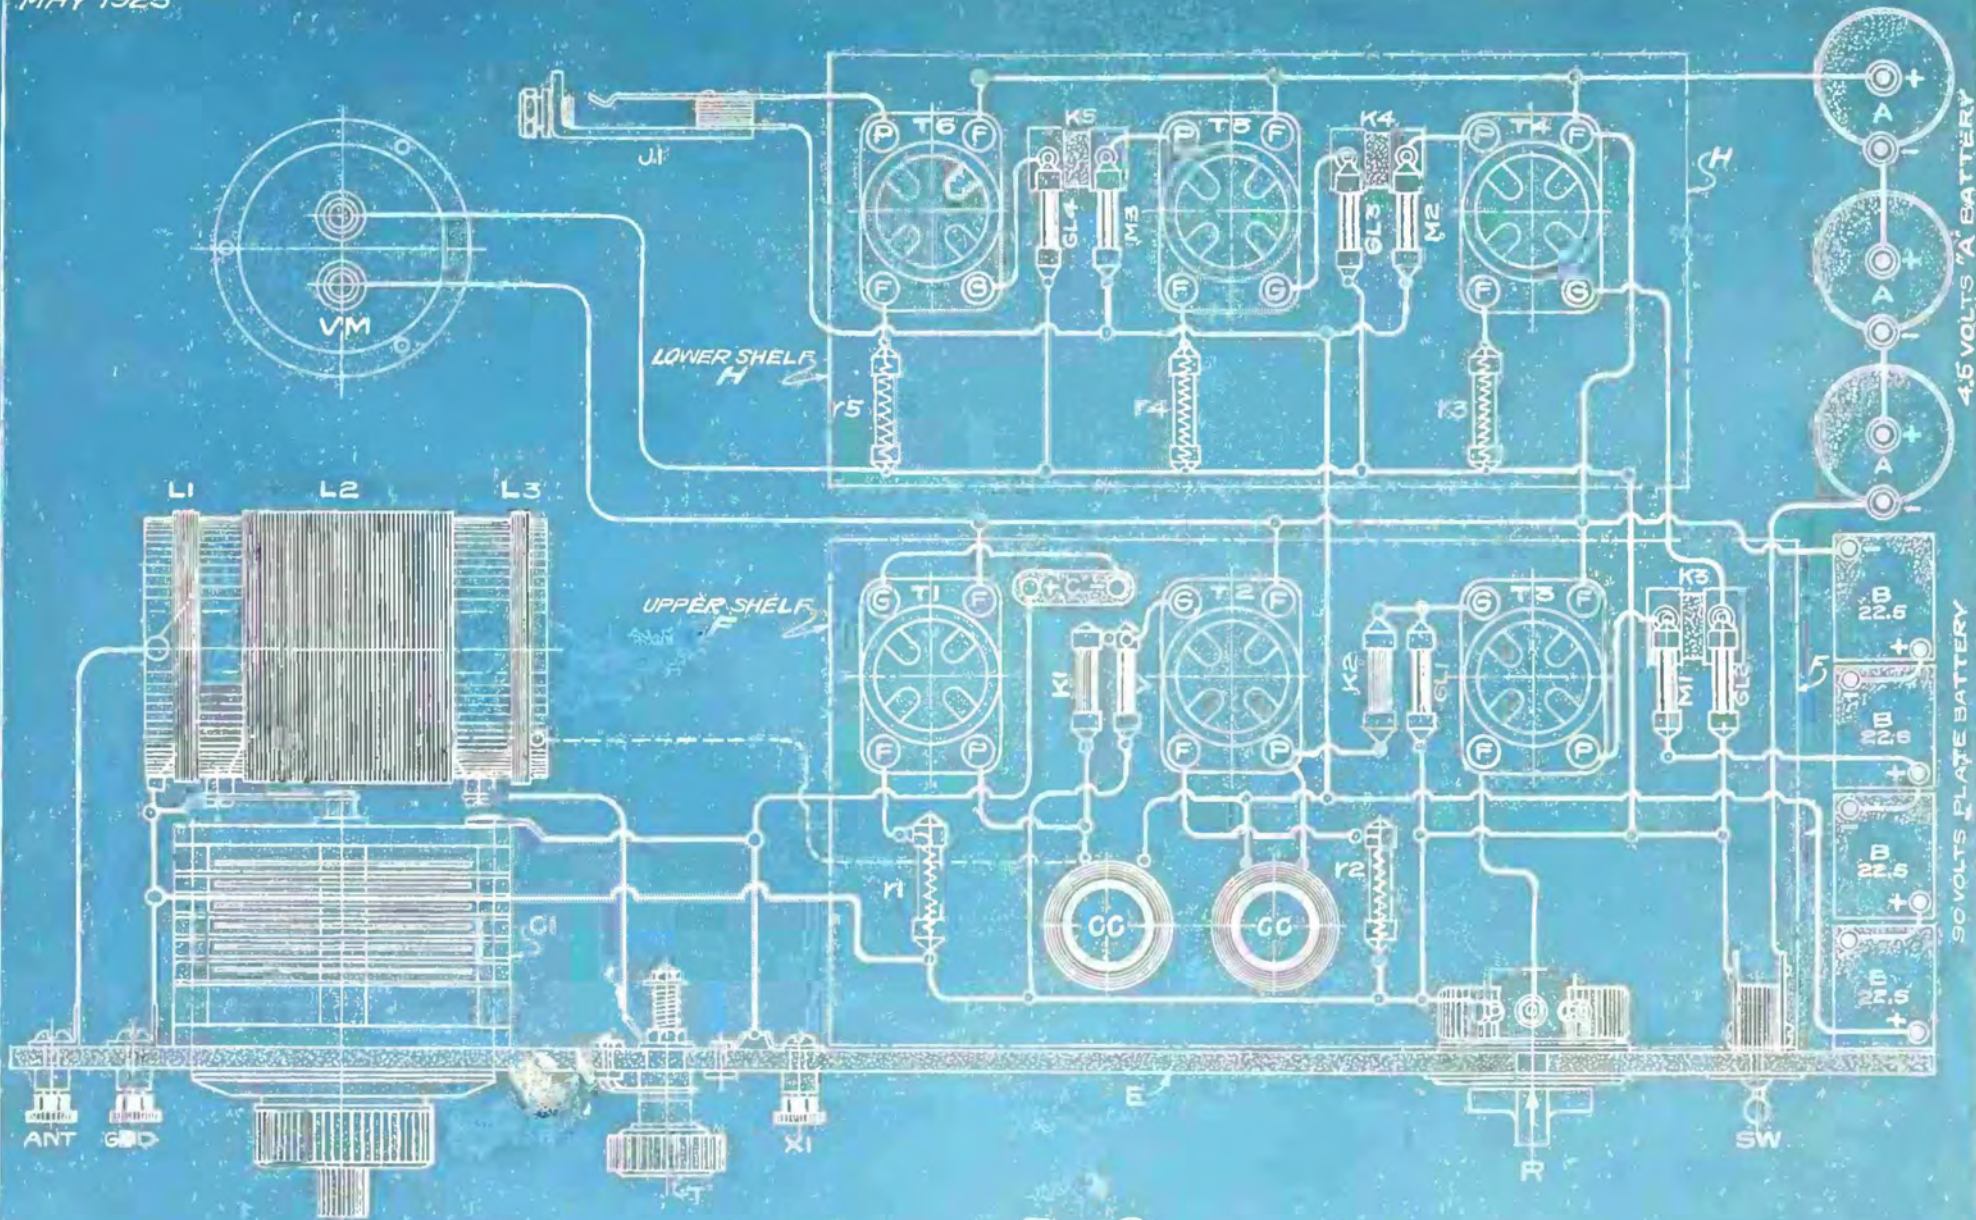
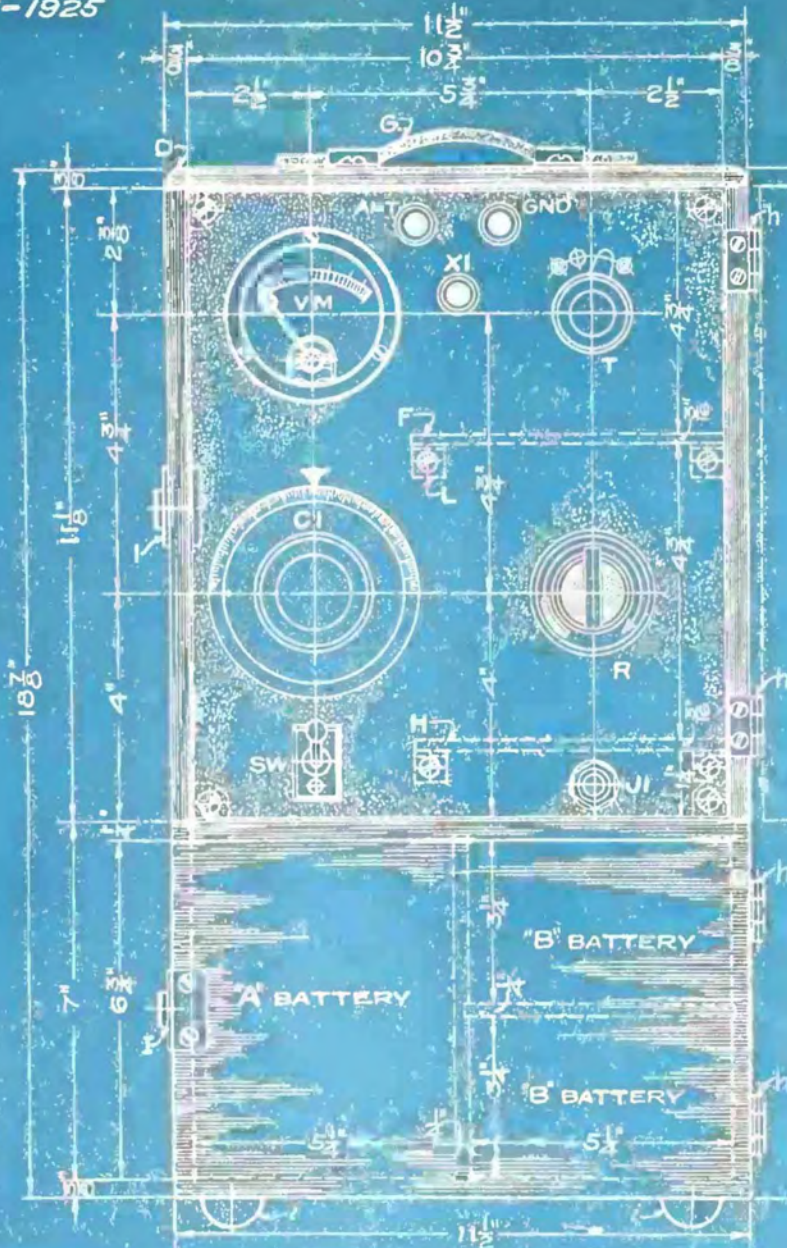
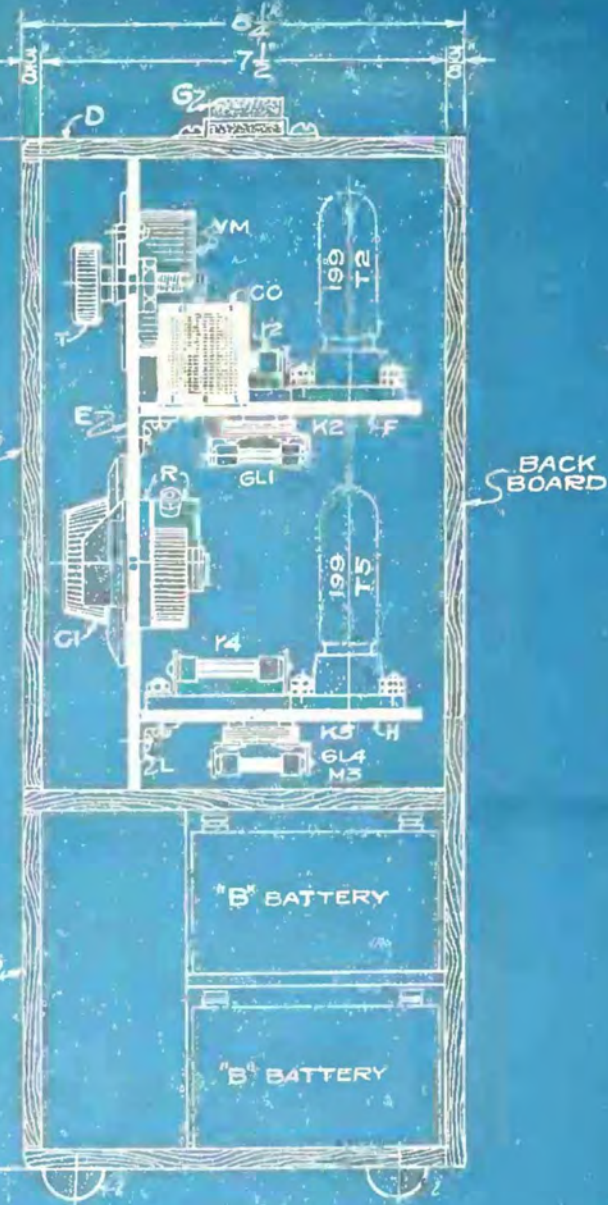

FIG. 2
FIG. 3
FIG. 3A
THE application of the choke system to the first three tubes will be seen in Fig. 1 and Fig. 2, where Fig. 1 is a schematic diagram using symbols, and Fig. 2 is a picture wiring diagram. The first will be of more service to the experienced builder in "doping out" the circuit, while the latter will show the novice how the wiring connections are actually made to the parts. Fig. 3 is a front elevation of the panel and cabinet, while Fig. 4 is a rear elevation showing the parts assembled at the rear of the panel. Fig. 3A is a sectional view as seen from one side of the assemblage.
ALL of the amplifying tubes, five in number, are provided with automatic filament controls which maintain the amplifying tube current at the proper intensity without rheostats or other manual controls. This is a decided step toward simplicity and compactness, and prolongs the life of the tubes by holding the filaments constantly at the proper temperature. A manual rheostat (R) of the usual form must be provided for the detector tube (T3) as this has a rather critical filament adjustment that cannot be automatically controlled. The rheostat (R) is represented on the front of the panel by a knob as shown by Fig. 3, and is the only control outside of the condenser dial (C1). A switch (SW) must be provided for shutting off the filament current when the set is not in use. It is no longer possible to turn off the amplifying tubes independently as when the usual form of rheostat is used. This can be an ordinary battery switch of the type to be found at any radio store.
Fig. 3, showing the front elevation of the panel and cabinet, gives a good idea of the general arrangement of the receiver when designed as a portable set. The cabinet is really divided into two parts, (1) the upper portion covered by the panel being for the radio circuit proper while (2) the lower compartment houses the "A" and "B" batteries. As this is a special arrangement, the cabinet and panel will have to be made specially for the job and it is not likely that a ready-made cabinet or panel can be found which will exactly fit the conditions.
In the front view of Fig. 3 we see that the panel contains all of the controls, and also the three binding posts for the aerial (ANT-X1-GND). The dial of the tuning condenser is at (C1), and for accuracy this should be a four-inch dial with some sort of vernier arrangement, as the tuning is exceedingly sharp. The rheostat control (R) for the detector tube is at the right of the condenser dial. The battery switch for turning the "A" battery current on and off is at "SW" and the output jack is (J1). In the upper right hand corner of the panel is the grid switch (T) by which the set can be thrown over from flat top aerial to loop operation. This is all there is to the control of the set and its external connections.
As will be seen from the side sectional view, Fig. 3A, the panel is set back from the front edge of the cabinet so that the front door will clear the knobs and dials.
FIG. 4 shows the arrangement of the apparatus as seen from the rear of the panel. The six tube sockets (U) are placed in groups of three on the two shelves (F) and (H), and the outlines of the tubes are indicated by thin dot and dash lines so that the allowance for shelf clearance can be easily seen. The tubes are numbered so that their relation to the circuit drawings of Figs. 1 and 2 can be easily followed, and the sockets can be located in the same way. Fig. 3A and Fig. 4 can be used in combination, thus obtaining the side and rear elevations of the assembly.
The side sectional view of Fig. 3A shows that a shelf (F) is used for carrying the first three tubes, and that this shelf is attached to the panel (E) by means of brass angle brackets (L). The shelf (F) carries the first two tubes (T1-T2) of the radio frequency circuit and also the detector tube (T3). Below the upper shelf is the lower shelf (H) which carries the three audio tubes (T4-T5-T6). As the resistance units and other parts of the circuit are carried on the underside of the shelves with the sockets on top, we must be sure to leave room to accommodate the height of the tubes over their sockets, plus the thickness or height of the resistance units and the condensers, plus clearance.